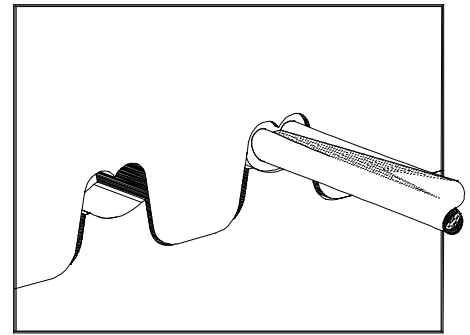

Figure 3
4. Close the tool until the ratchet releases, (See Figure 3).